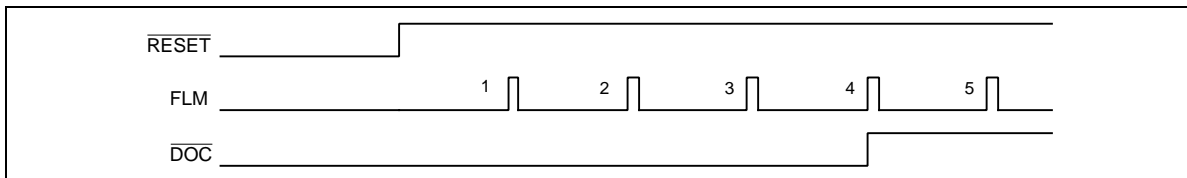

Figure 4 Automatic Display-off Control Function
2. Auto Display-off Control: This function prevents incorrect display after reset release. The display is turned off four frames following after reset release. In addition, the display off control signal shown in Figure 4 is output by pin $\overline{\text{DOC}}$. This pin is connected to pin $\overline{\text{DISPOFF}}$ of the HD66522.